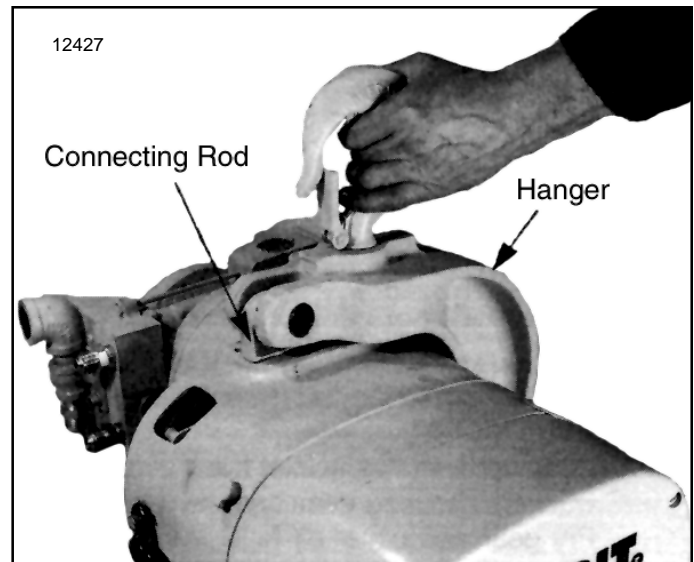
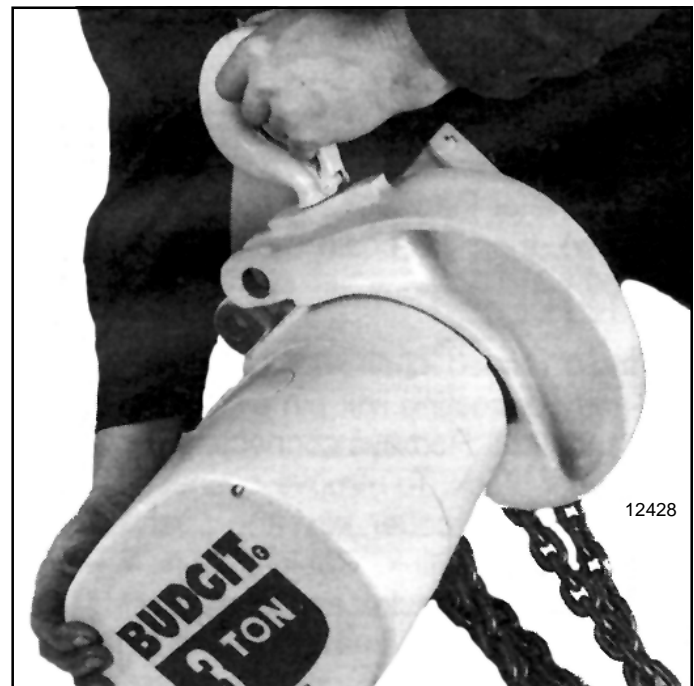
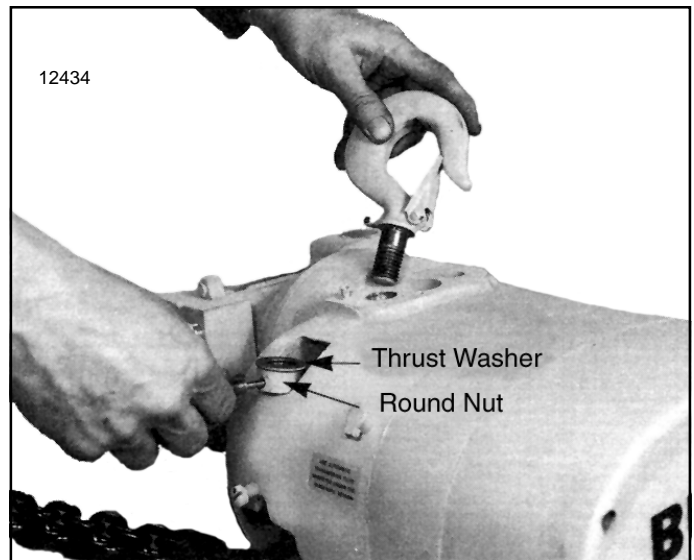

Figure 7-1. 3 Ton Hanger Bracket Connection Pin Removed
Figure 7-2. Removing 3 Ton Hanger Bracket from Hoist Frame
Figure 7-15. Removing Upper Hook and Hook Nut From Hoist Frame (Single Reeved Models)
- (4) To remove hanger bracket from triple reeved hoist, remove retaining ring and connecting rod pin (see Figure 7-1). Rotate hoist approximately 45° (see Figure 7-2) and hanger will slip free from hoist frame.
(1) On single reeved models, drive pin from hook nut using drift punch and unscrew upper hook. Nut is reached through access hole in side of hoist frame. See Figure 7-15.
(3) On tripled reeved models, remove retaining ring from connecting rod pin and push connecting rod pin through bracket and connecting rod, releasing hanger (see Figure 7-1). Raise hanger above hoist frame to provide access to hook nut. Rotate hook until grooved pin in nut is visible from end of hanger frame. Using a drift punch, drive grooved pin through hook nut until it hits hanger pocket. Remove drift punch far enough to hold nut from turning and unscrew hook from nut. Thrust washer will fall free.
(4) To remove connecting rod (Figure 7-1) on tripled reeved hoist drive pin from rod using drift punch and unscrew connecting rod. Nut is reached through access hole in side of hoist frame. (See Figure 7-15.)